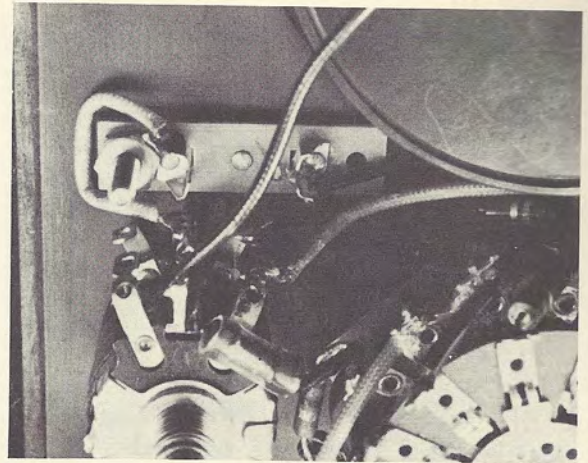

Fig. 12-8
Step 3. Run the wire as shown in Fig. 12-8 and solder it to terminal 2 of potentiometer P_1 . If necessary, unsolder the previously made connection before doing this step.